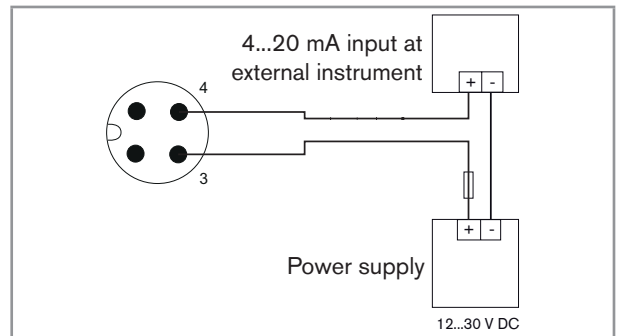

Fig. 6: Device with 4-pin M12 male connector – Connection of the current output
- Connect the 4...20 mA current output. Refer to Fig. 6.